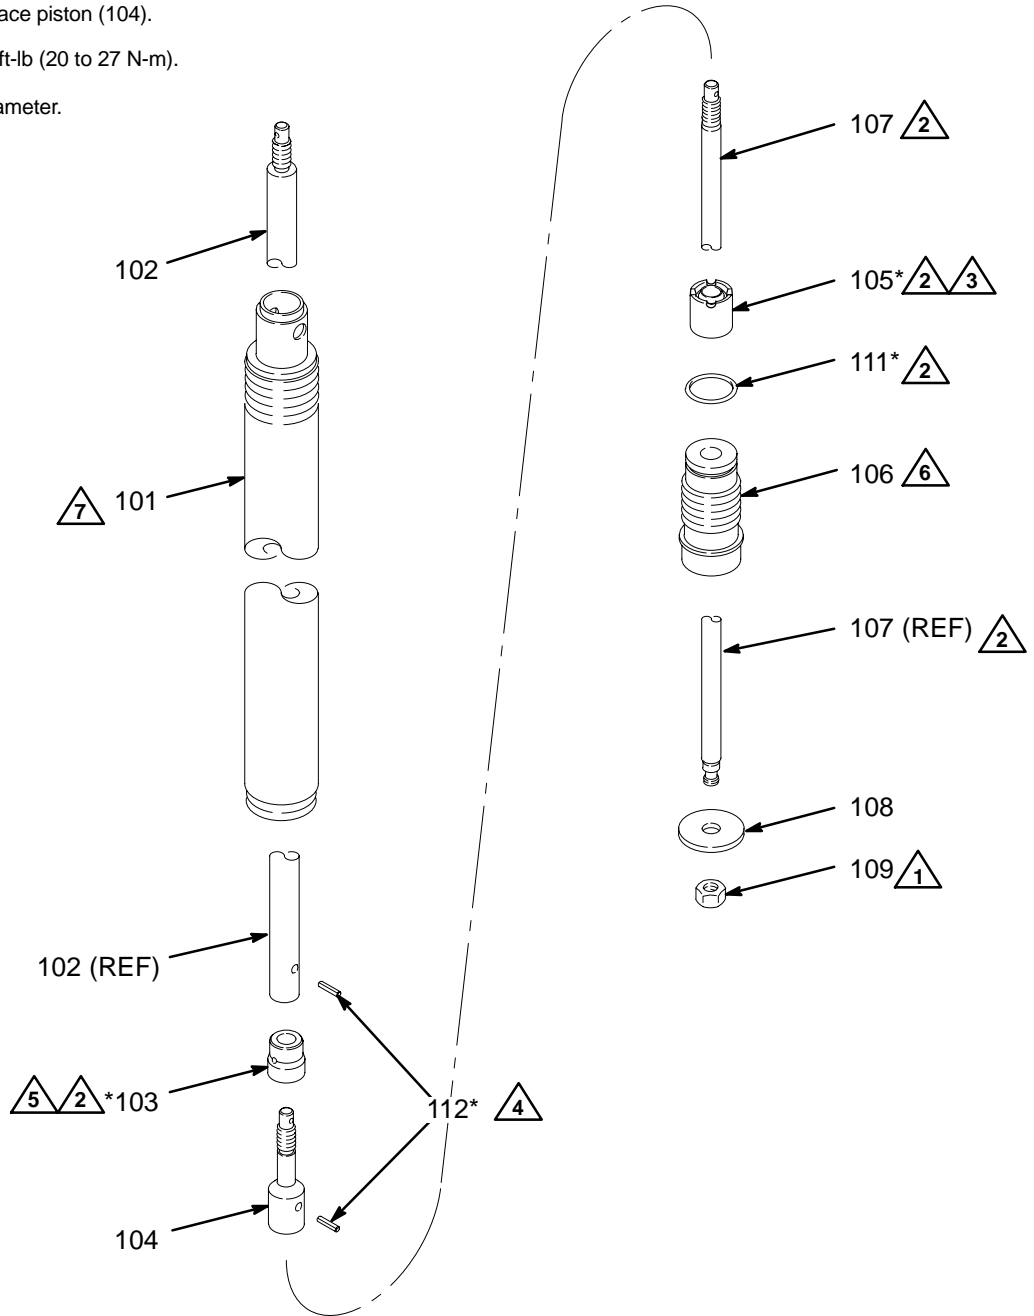

Fig. 9
1. Disconnect the displacement pump from the air motor (1), as explained on page 15.
2. Unscrew the packing retainer (106) from the pump cylinder (101). Pull the entire pump assembly out of the bottom of the cylinder. See Fig. 9.
3. Drive the pin (112) out of the connecting rod (102) and piston (104). Unscrew the piston from the rod. Slide the seal (103) off the piston.
4. Drive the pin (112) out of the piston (104) and priming piston rod (107). Unscrew the rod.
5. Slide the intake seal (105) off the rod (107). This may be difficult because there is friction between the seal and rod.
6. Slide the packing retainer (106) off the rod (107). Remove the o-ring (111) from the packing retainer.
7. Examine the o-ring (111) and priming piston (108) for scoring or damage. It is normal for the piston to show some movement on the rod. If either parts needs replacement, go to step 8.
8. If the rod (107) or the priming piston (108) needs to be replaced, insert a punch in the pin hole at the top of the rod to hold it steady. Unscrew the nut (109), and remove the priming piston. **If 107 or 108 do not need to be replaced, leave assembled.**
1. If the priming piston (108) was removed from the priming piston rod (107), reinstall it on the bottom threads of the rod (the end without a pin hole) and secure with the nut (109). Torque to 35 to 45 in-lb (4.0 to 5.1 N-m). Lubricate the rod. See Fig. 9.
2. Lubricate the o-ring (111*) and install it on the packing retainer (106). Slide the retainer onto the rod (107), with the o-ring at the top. Lubricate the intake seal (105*) and slide it onto the rod, with the flat side facing the packing retainer. There should be friction between the seal and the rod. If there is very little or no friction, replace the rod or the seal. It is not necessary to slide the seal all the way down to the retainer.
3. Screw the piston (104) onto the rod (107) until the pin holes align. Install the pin (112*). Be sure that the pin is flush or below the surface of the piston on both sides.
4. Lubricate the seal (103*) and install it on the piston (104), with the large bevel facing the piston.
5. Screw the connecting rod (102) onto the piston (104) until the pin holes align. Install the pin (112*). Be sure that the pin is flush or below the surface of the connecting rod on both sides.
6. Lubricate the inside of the cylinder (101). Slide the rod assembly into the bottom of the cylinder. There may be a lot of friction, but do not use a hammer or rubber mallet to drive the assembly, to avoid damaging the parts.
7. Screw the packing retainer (106) into the cylinder (101). Using a socket wrench or crow's foot wrench, torque to 15 to 20 ft-lb (20 to 27 N-m).
8. Continue to push the rod assembly up as far as possible. Reconnect the displacement pump to the air motor (1) as explained on page 15.